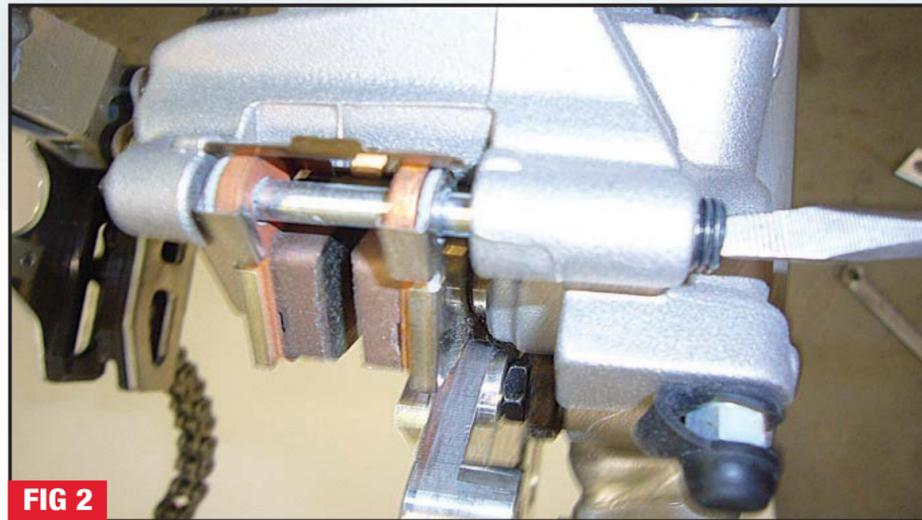

FIG 2
- 3 Remove brake pin access plug using a flat blade screw driver (except on 13-030, 13-031, 13-041, 13-045, 13-046, 13-047 & 13-048). (Fig 2) Remove brake pin with a 5mm Allen wrench or 8mm socket depending on your model (on 13-045 remove the two brake pin retaining clips). (Fig 3) Remove rear brake pads.